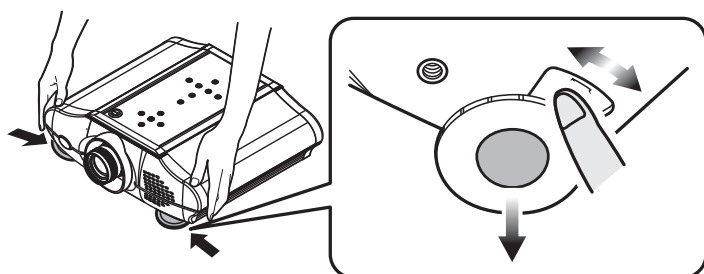

Figure 11
*Note: If more than several turns are needed there is a release lever located next to the foot for rapid and large changes in height. Refer to figure 11.*